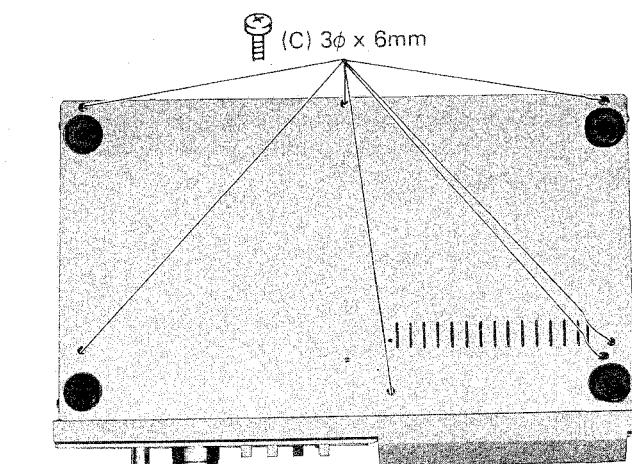

Figure 6
2. Remove seven screws (C) from the bottom plate. See Figure 6.